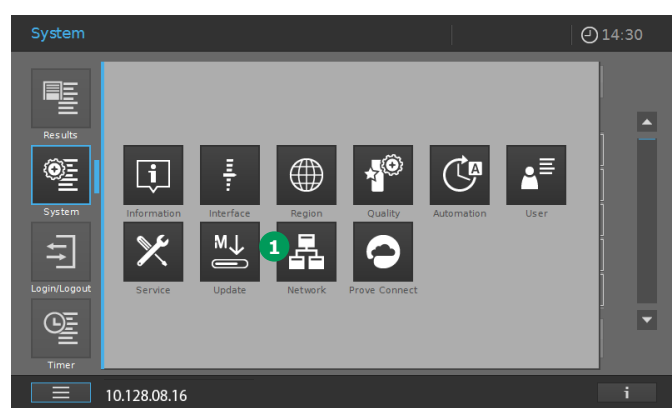

Figure 34 - Screen of Spectroquant® Prove after clicking on "System"
1. Open the Network tab **1** (Figure 34) in the Prove System menu.